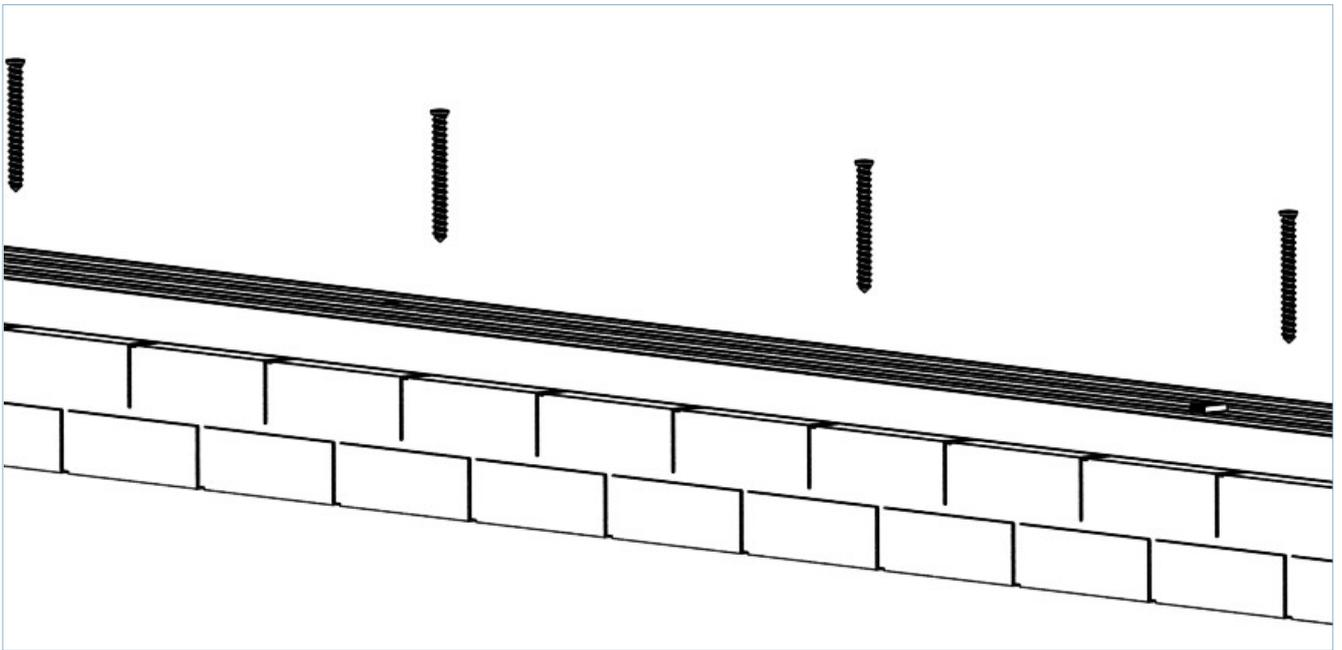

FIG 12
4. Jambs must be plumb and straight – pack as necessary when fixing to avoid bowing or twisting (FIG 12 – 15)